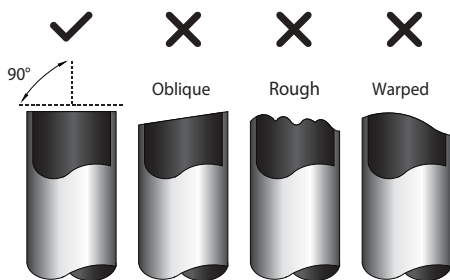

Fig. 7.2
1. Ensure that the pipe is cut at a perfect 90° angle. Refer to Fig. 7.2 for examples of bad cuts.